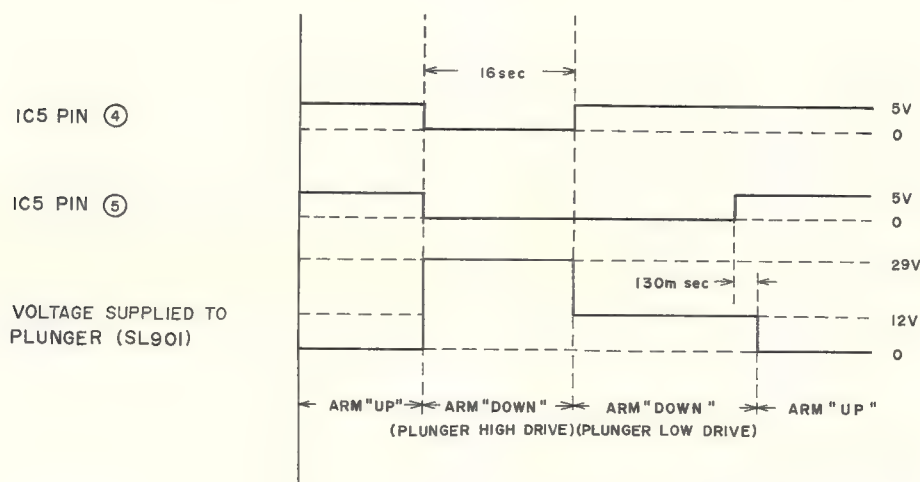

Fig. 5-7 Timing Chart
- 1) The Plunger high drive output (IC5 pin ④) is "H" when the Tone Arm is raised and also while the Tone Arm is up, and "L" for 1.6 seconds while the Tone Arm descends and "H" after that 1.6 seconds as shown in Fig. 5-7.